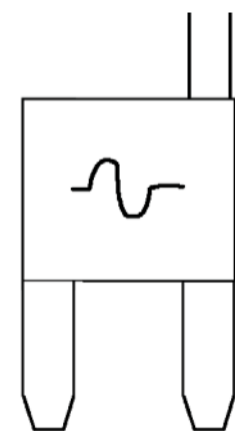
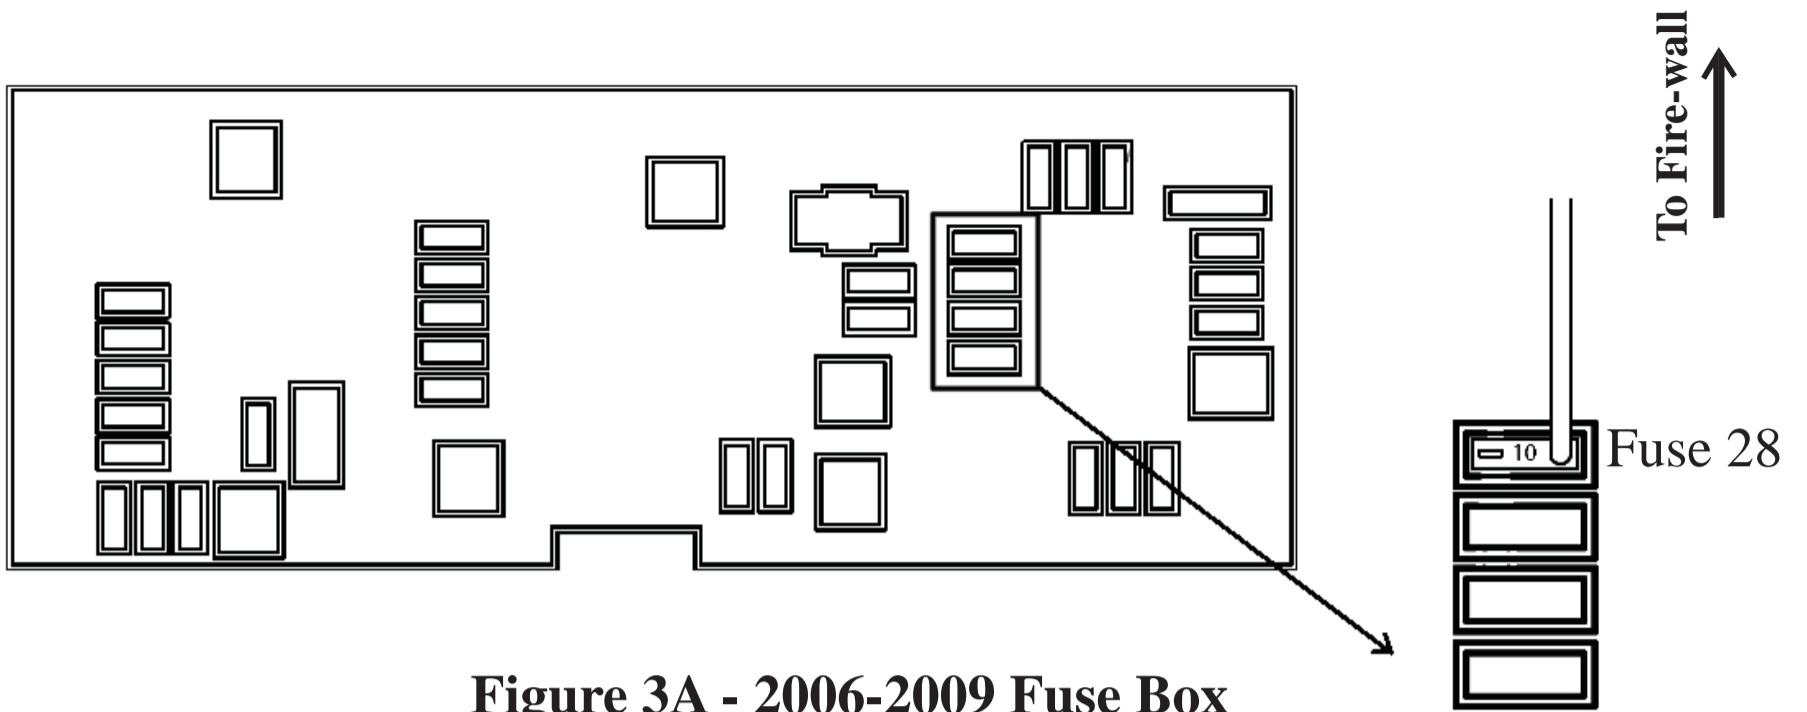

Figure 2
Figure 3A - 2006-2009 Fuse Box
4. Insert the Leaded Fuse Links (see Figure 2). The leg with the wire soldered to it needs to plug into the "HOT" side of the fuse location. Orient the fuse exactly as shown in Figures 3A,3B, and 3C on the following page.